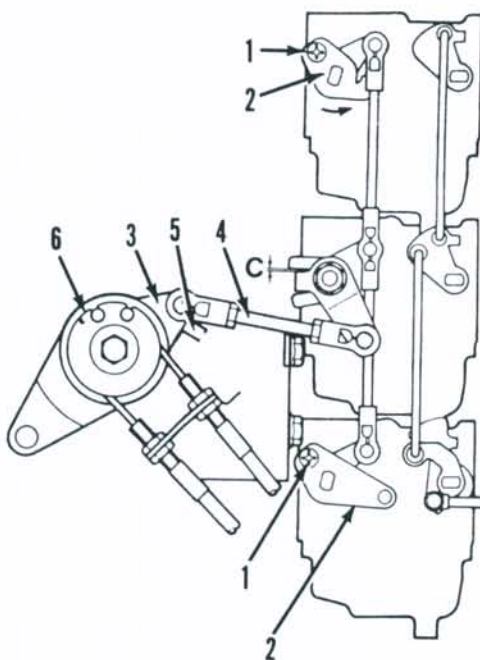

Fig. SZ11-40—View of speed control linkage. Adjust linkage as described in text.
SPEED CONTROL LINKAGE. To adjust speed control linkage, loosen throttle lever adjusting screws (1—Fig. SZ11-40) on top and bottom carburetors and rotate throttle levers (2) counterclockwise to full closed position. Hold levers (2) closed and retighten screws (1). Adjust throttle link (4) so throttle arm (3) is against stopper (5) and clearance (C) is 0.5-1.5 mm (0.020-0.060 in.) with throttle in fully closed position. Make sure throttle plates are synchronized at full closed and full open positions.